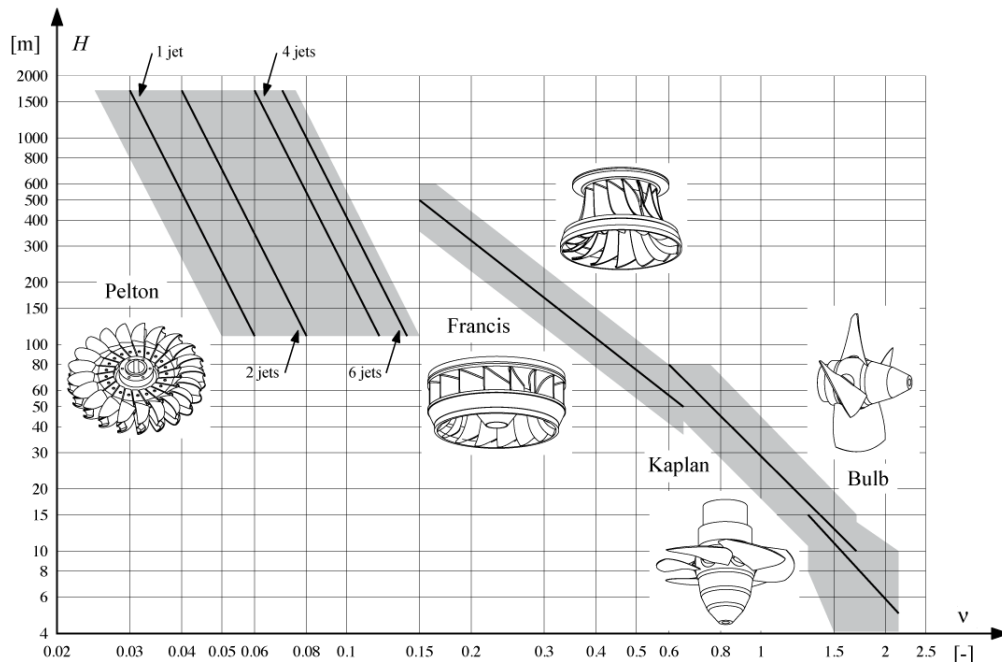

Figure 1: Turbine type depending on specific speed v and head H
- 2) Calculate the specific speed v and, using Figure 1, select a suitable turbine type for the power plant.
Therefore, according to Figure 1, a two jets Pelton turbine is the most suitable runner for a power plant with $n \cong 0.06$ and $H = 350 \text{ m}$